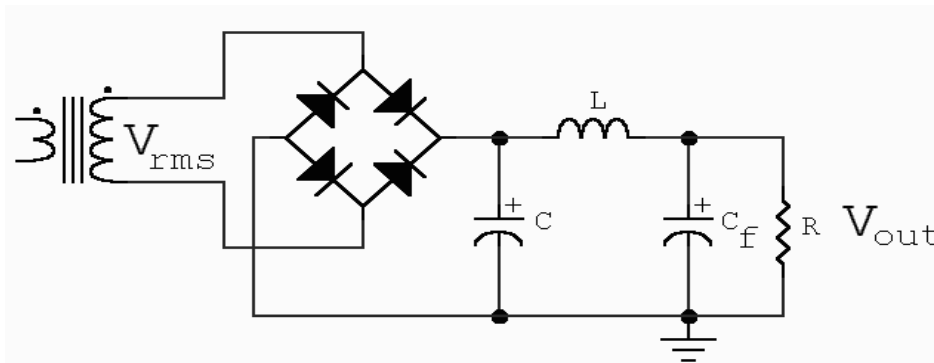

Figure1: Full wave bridge rectifier with π filter
1. Connect the circuit of rectifier with π Filter on bread board as shown in Figure 1.